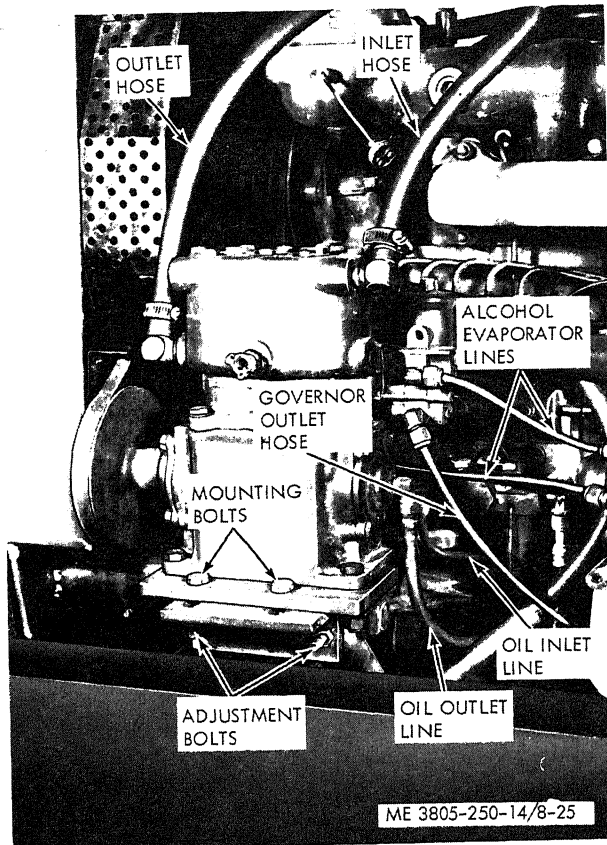

Figure 8-25. Air compressor, removal and installation.
a. *Removal.* Refer to figure 8-25.
(1) Block the wheels and apply the parking brake.
(2) Remove the right engine side panel.
(3) Drain the air reservoirs (para 3-19).
(4) Disconnect the inlet hose, outlet hose, governor outlet line, oil inlet line and oil outlet line